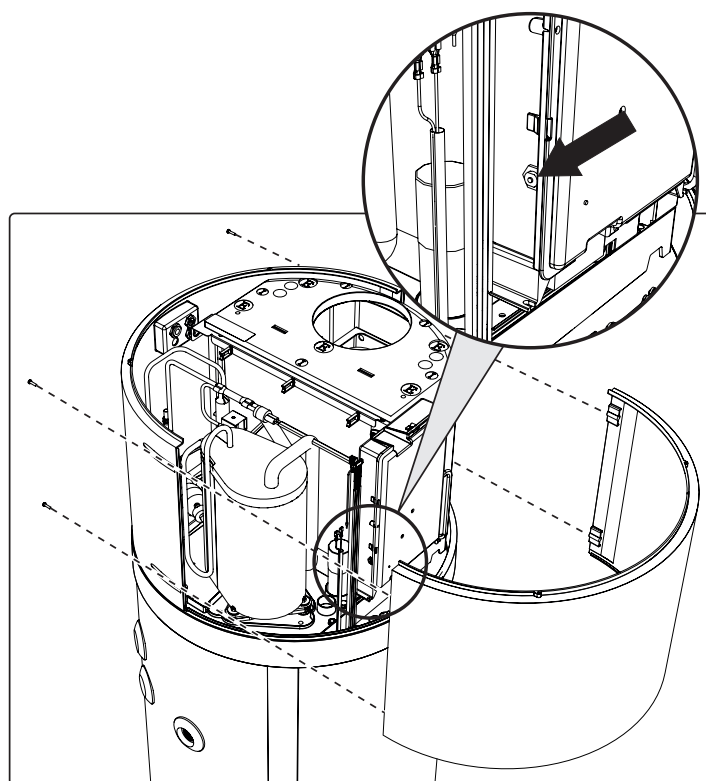

fig. 48- Front panel removal
- Remove the front panel and manually reset the tripped safety thermostat (fig. 48). In case of intervention, the central pin of the thermostat comes out by about 2 mm.